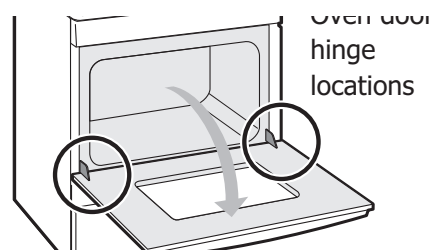

Figure 16: Door hinge location
1. Open oven door completely, horizontal with floor (See Figure 16).
3. Fully open the oven door, horizontal with floor (See Figure 16).